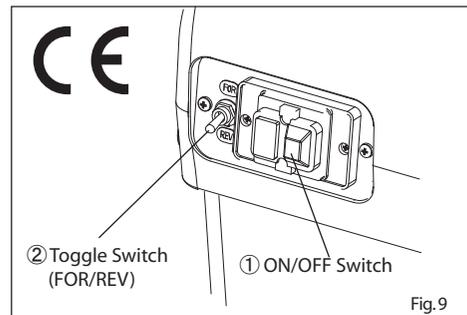

Fig. 9
4. Checks before starting (Fig. 9)
Using the ON/OFF switch (Fig. 9-①)
Using the Toggle (FOR/REV) switch (Fig. 9-②)